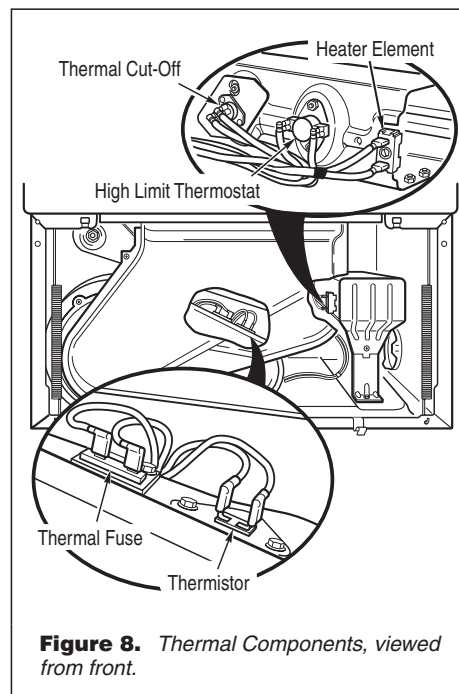

Figure 8. Thermal Components, viewed from front.
2. Remove the toe panel to access the thermal components. See figure 11, page 7. Locate the components using figure 8.
- Check wire connections at the machine control electronics and thermistor. See Accessing & Removing the Electronic Assemblies, page 7, and figure 8 for thermistor location.
- If wire connections are good, remove the two wires from the thermistor and replace the thermistor. See figure 8.
2. Access the thermal fuse by first removing the toe panel. See Removing the Toe Panel, page 7; and figure 8, page 4, for thermal fuse location.
3. Using an ohmmeter, check the continuity across the thermal cut-off. See figure 8, page 4, for location.